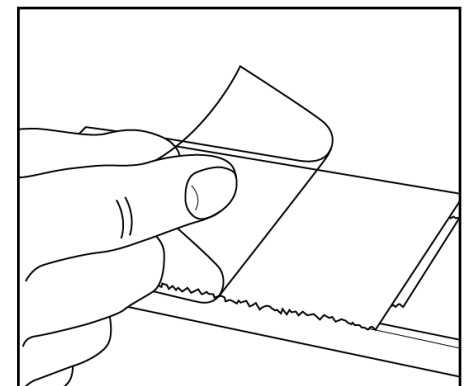

Fig.34
5. Remove the clear protective film from the back of the Velcro (**Fig.34**). Carefully place the Awnbrella arm back into position, pressing it firmly against the awning fabric.